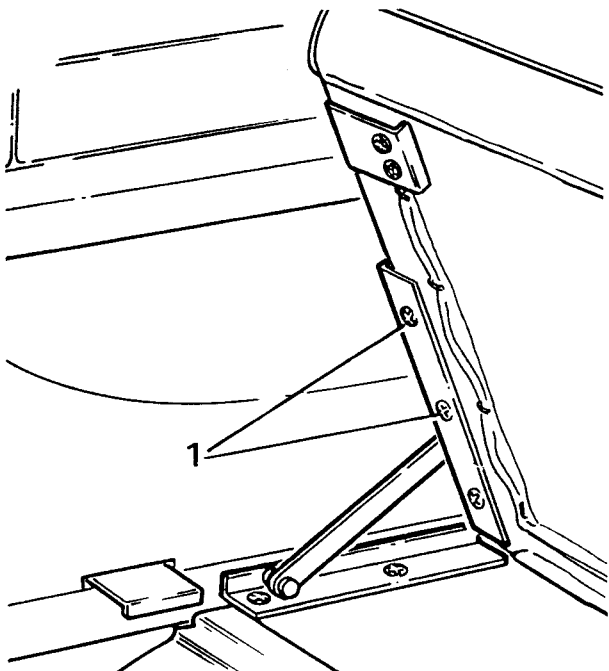

Figure 7
1. Raise the seat cushion and remove the three screws, which secure the cushion to the seat brackets. See figure 7.
1. Raise the seat cushion. See figure 7.